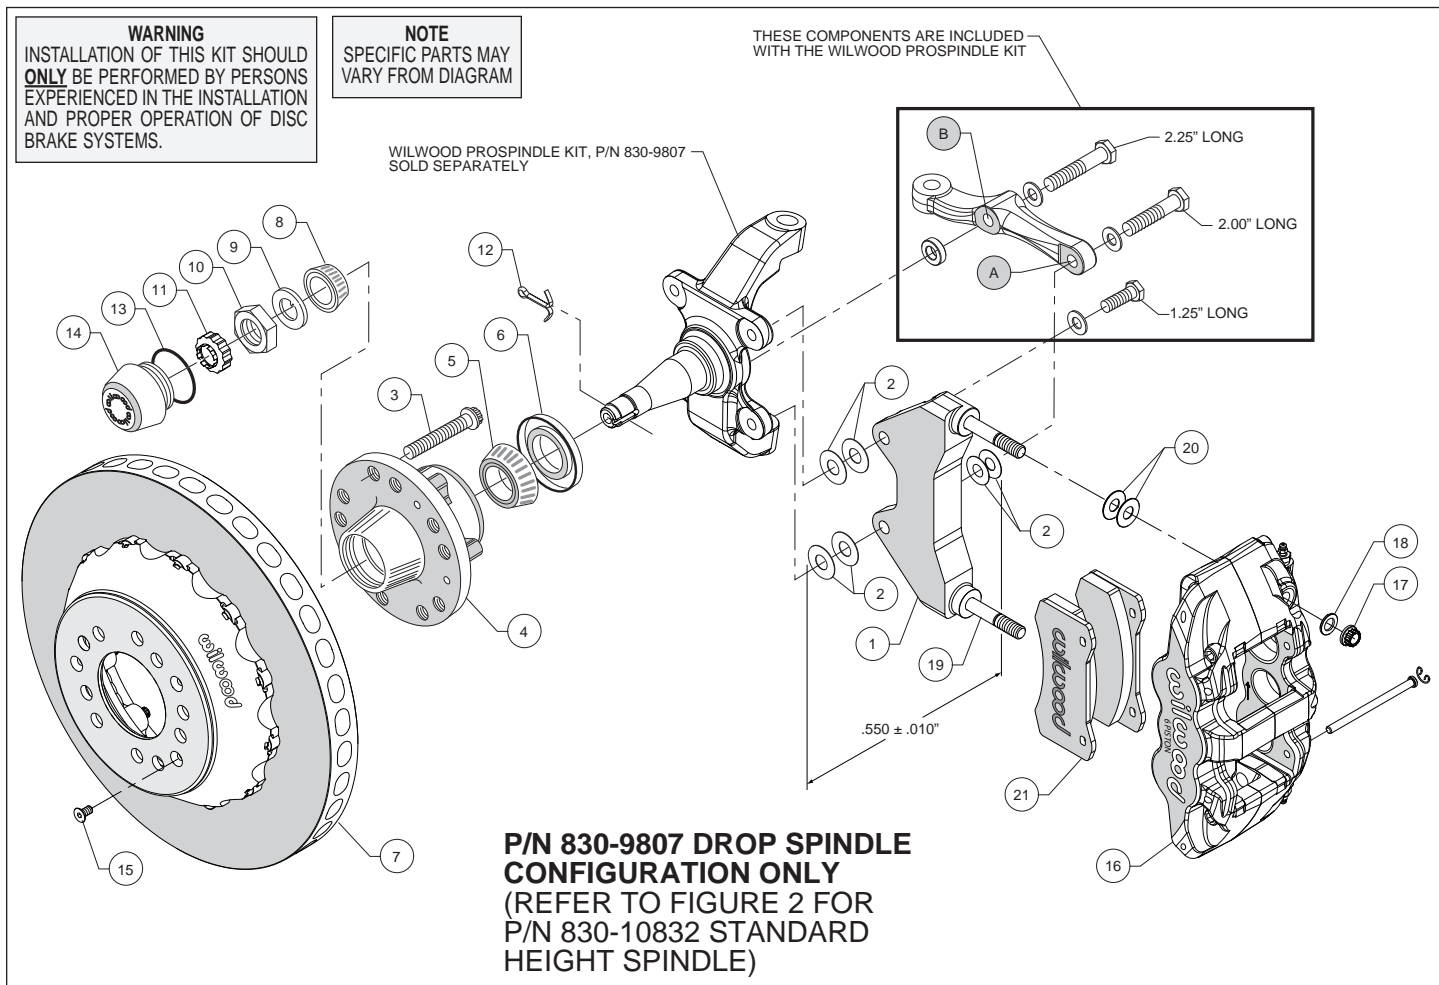

Figure 1. Installation Configuration For Drop Spindle, P/N 830-9807
Assembly Instructions (numbers in parenthesis refer to the parts list and Figures 1 and 2 on the preceding pages):
- NOTE:** Each Wilwood ProSpindle kit includes bolts, washers, and a spacer to mount the steering arm and caliper bracket. The various bolts are identified by length in the following instructions and in Figures 1 and 2.
- Orient the bracket as shown in Figure 1 and Photo 1. Install at top spindle hole using 1.25" long bolt and .06" thick washer (from ProSpindle kit), and two .016" thick shims (2) between the bracket and spindle, Figure 1.
- Orient the steering arm, and identify the hole marked 'A', as shown in Figure 1. Install at bottom spindle hole using 2.00" long bolt, .06" thick washer (from ProSpindle kit), two .016" thick shims (2) between the steering arm and the bracket, and another two more .016" thick shims (2) between the bracket and spindle, Figure 1. The bracket is located between the steering arm and spindle. **NOTE:** The bracket and shim washers must add up to a total thickness of .550" \pm .010", Figure 1.
- Finish attaching the steering arm through the hole marked 'B', as shown in Figure 1. Install using 2.25" long bolt, .06" thick washer, and .25" thick spacer (all from ProSpindle kit), Figure 1.
- Slide the hat/rotor (7) onto the hub (4) taking care to align the small countersunk holes in the hat with the small threaded holes in the hub. **NOTE:** *The hat must fit flush against the hub face or excessive rotor run out may result.* Install three flat head screws (15) through the small holes in the hat, Photo 6, and torque to 85 in-lb.
- NOTE:** *This kit contains distinct right and left hand calipers that must be mounted in a specific direction, as described below.* Lubricate the caliper mounting studs (19) with lightweight oil. Initially place two .030" thick shim (20) on each stud between the caliper and the bracket, as shown in Figure 1 or 2, and Photo 7. Mount the caliper (16) onto the bracket (1) using lock nuts (17) and washers (18), Figure 1 or 2. Ensure that the caliper is mounted so the largest pistons are at the rotor exit end of the caliper, in relation to the direction of rotor rotation. Temporarily tighten the lock nuts. View the rotor through the top opening of the caliper. The rotor should be centered in the caliper, Photo 8. If not, proceed as follows:
- Adjust by adding or subtracting shims (2) between the bracket and the spindle. Always use the same amount of shims on each of the two bolts between bracket and spindle.
- For the lower bracket mount bolt, if a shim was added between the bracket and spindle, then a shim must be removed between the steering arm and bracket, such that the total thickness of bracket and shims remain equal to .550 ± .010", Figure 1.
- Adjust by adding or subtracting shims (2) between the bracket and the spindle. Always use the same amount of shims on each of the two mounting bolts.
- Remove the two pad retaining pins from the caliper by carefully popping out the pin retaining clips and sliding out the pins. Insert the brake pads (21) into the caliper from the bottom, Figure 1 or 2, and Photo 9, with the friction material facing the rotor. Secure the brake pads in place with the pad retaining pins and clips, Photo 10. Reinstall the caliper onto the mounting bracket and temporarily tighten the lock nuts. Check that the top of the brake pad is flush with the outside diameter of the rotor, Photo 11. If not, adjust by adding or subtracting shims (20) between the caliper and the bracket. After the caliper pad height is set, torque the caliper lock nuts (17) to 47 ft-lb.